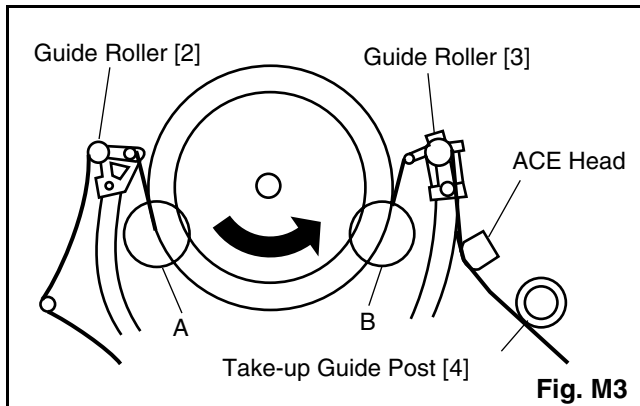

Fig. M3
1. Playback a blank cassette tape and check to see that the tape runs without creasing at Guide Rollers [2] and [3], and at points A and B on the lead surface. (Refer to Fig. M3 and M4.)
2. If creasing is apparent, align the height of the guide rollers by turning the top of Guide Rollers [2] and [3] with a Guide Roller Adj. Screwdriver. (Refer to Fig. M3 and M5.)
3. Check to see that the tape runs without creasing at Take-up Guide Post [4] or without snaking between Guide Roller [3] and AC Head. (Fig. M3 and M5)
2. Playback the Gray Scale on the Alignment Tape (FL8NW). Set the Tracking Control Circuit to the center position by pressing CH UP button and then "PLAY" button on the unit. Adjust the height of Guide Rollers [2] and [3] (Fig. M3, Page 2-3-3) watching the oscilloscope display so that the envelope becomes as flat as possible. To do this adjustment, turn the top of the Guide Roller with the Guide Roller Adj. Screwdriver.
3. If the envelope is as shown in Fig. M7, adjust the height of Guide Roller [2] (Refer to Fig. M3) so that the waveform looks like the one shown in Fig. M9.
4. If the envelope is as shown in Fig. M8, adjust the height of Guide Roller [3] (Refer to Fig. M3) so that the waveform looks like the one shown in Fig. M9.
5. When Guide Rollers [2] and [3] (Refer to Fig.M3) are aligned properly, there is no envelope drop either at the beginning or end of track as shown in Fig. M9.
Note: Upon completion of the adjustment of Guide Rollers [2] and [3] (Refer to Fig. M3), check the X Value by pushing the CH UP or DOWN buttons alternately, to check the symmetry of the envelope. Check the number of pushes to ensure center position. The number of pushes CH UP button to achieve 1/2 level of envelope should match the number of pushes CH DOWN button from center. If required, redo the "X Value Alignment."